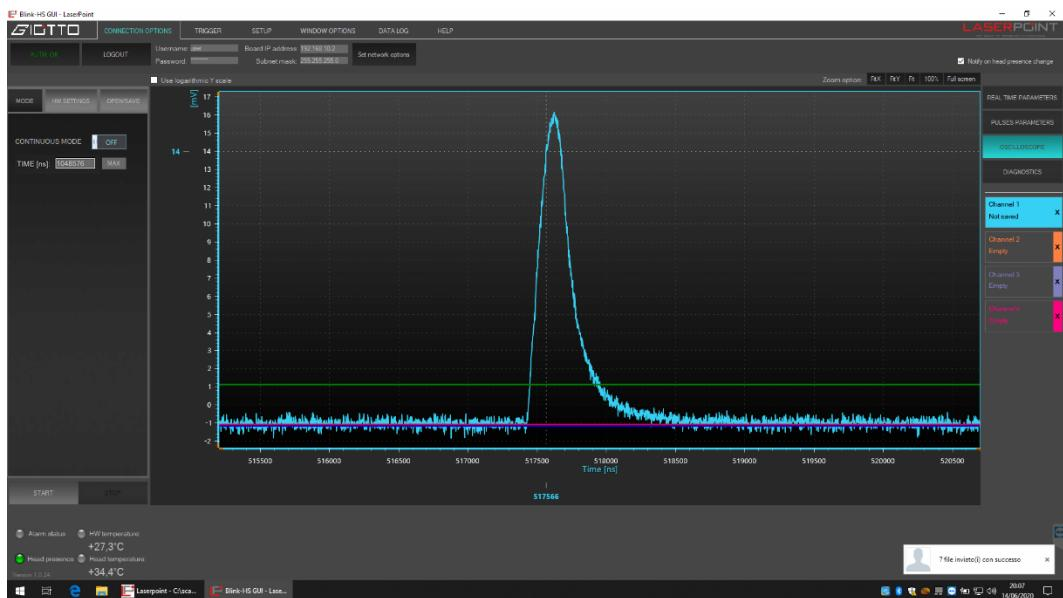

Figure 38
3. By left mouse click pointing over the graph trace, a crosshair appers (X-Y values are displayed); the crosshair is removed be click once more on the graph trace (**fig.38**)